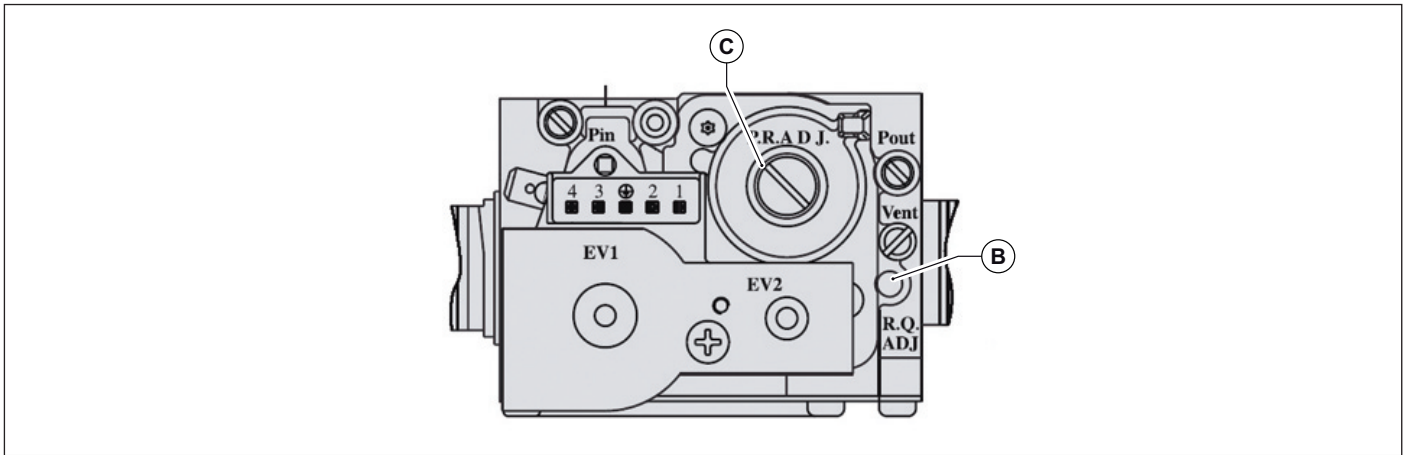

Fig. 30 Adjusting CO2 value
- Set flue gas CO2 content by turning the ratio adjuster **B** (see Fig. 30 Adjusting CO2 value) and ensure that reading falls within the limits of Tab. 22 Flue CO2 content. Let boiler flue cleaning function on and continue with the next point "Minimum heating output adjustment".
- Set flue gas CO2 content by turning the offset control **C** (see Fig. 30 Adjusting CO2 value) and ensure that reading falls within the limits of Tab. 22 Flue CO2 content.